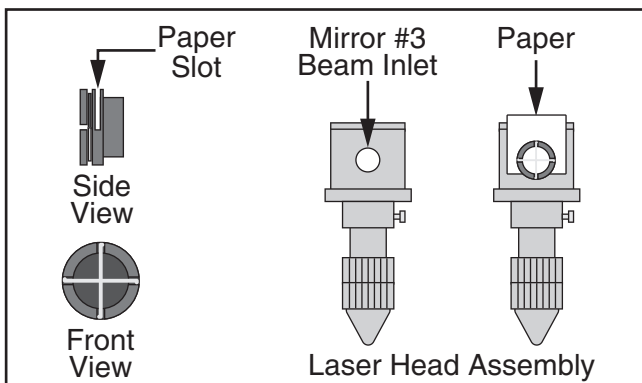

Figure 121. Laser beam alignment gauge installed in beam inlet.
2. Insert 1" piece of paper or manila folder into laser beam alignment gauge, and install gauge in beam inlet on laser head assembly (see **Figure 121**).